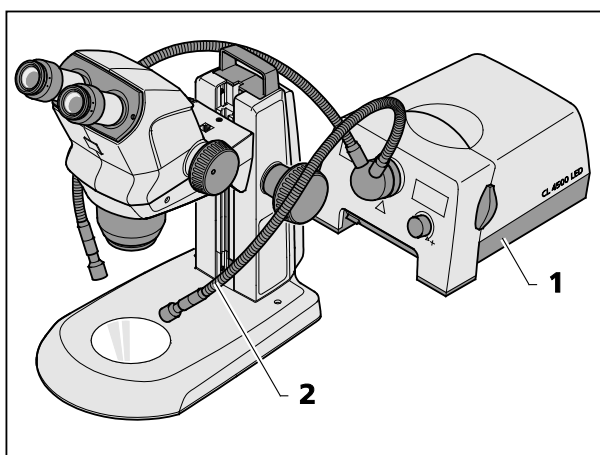

Fig. 11 Mounting external fiber-optic illumination
- Switch on external fiber-optic illumination (Fig. 11/1), adjust illumination intensity and set illumination by bending the two goosenecks (Fig. 11/2) so that the specimen is optimally lit.